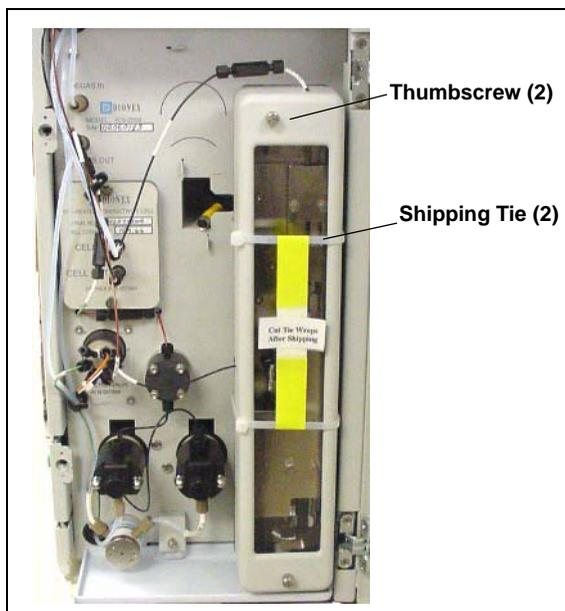

Figure B-18. ICS-1500 Column Heater Setup
1. Cut off the two shipping ties from the column heater and remove them (see Figure B-18).